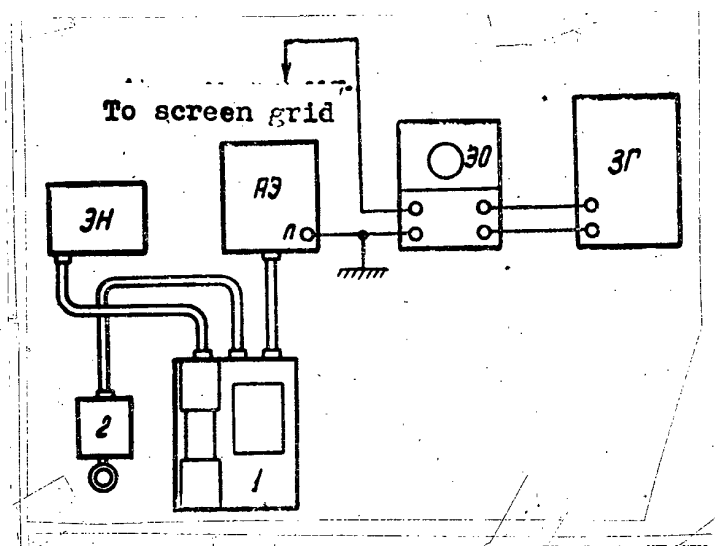

Figure 11: Block diagram of the instruments required for adjustment of the 200, 40, 20 and 10 kc oscillators of the crystal calibrator.
1. Assemble the circuit shown in Fig.11.